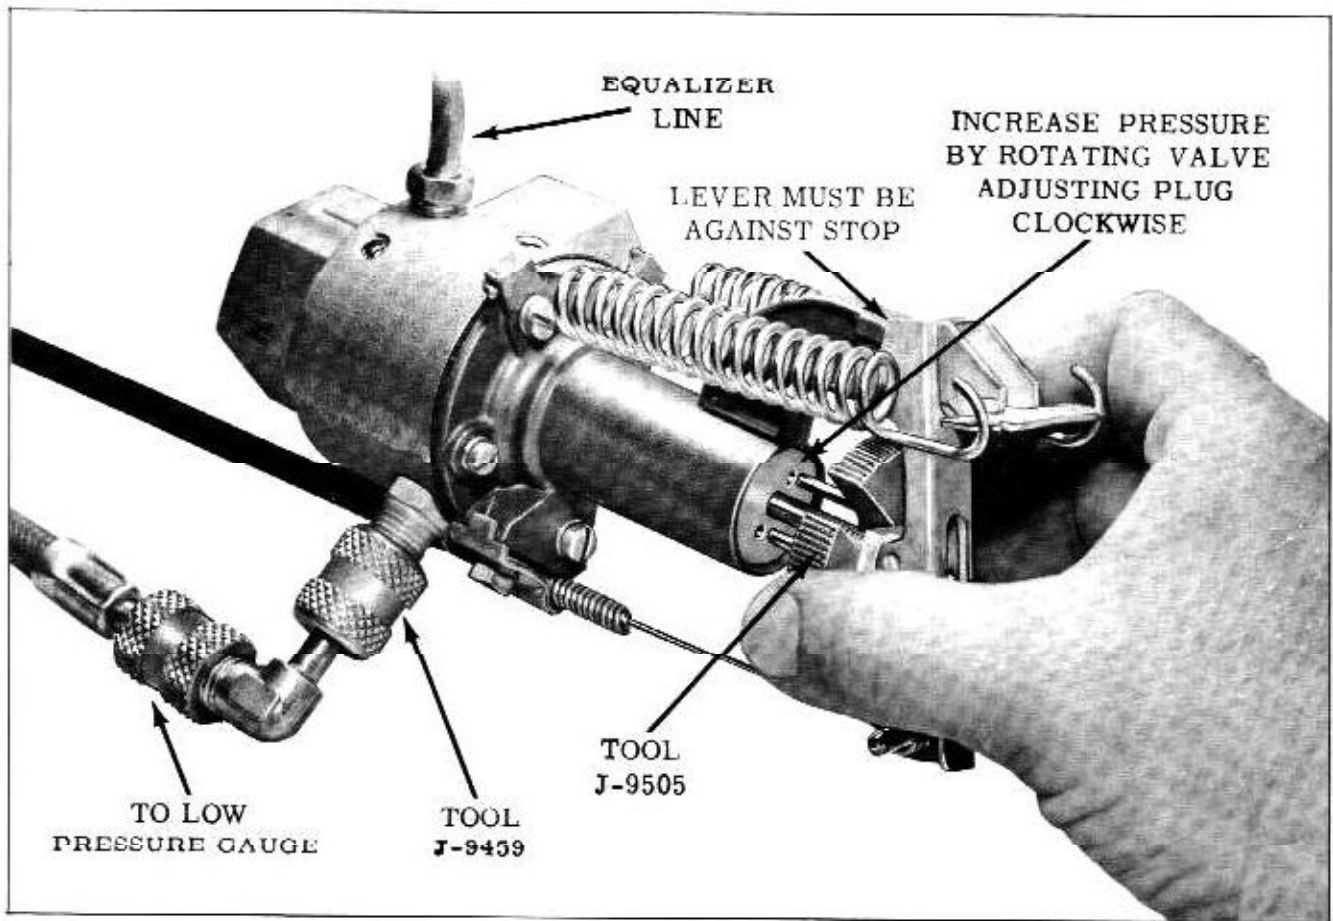

Fig. 14-3 Adjusting Suction Throttle Valve
- a. Engage the pins on tool J-9505 in holes in valve plug. (Fig. 14-3)